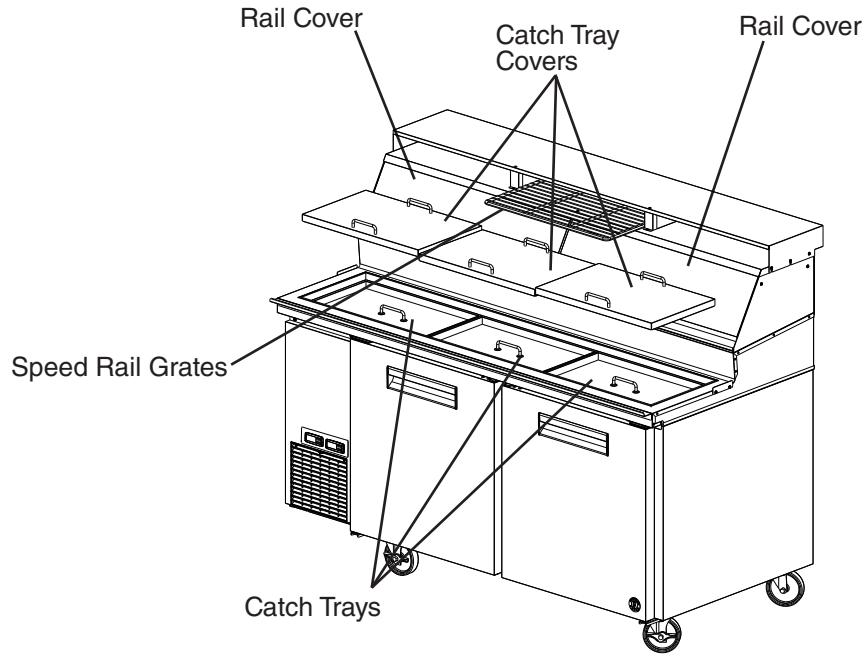

Fig. 8
- 2) Place the speed rail grates in the middle storage bin above the rail. See Fig. 8.
- 3) Lift the catch tray covers and confirm that the catch trays are in their correct positions. See Fig. 8.